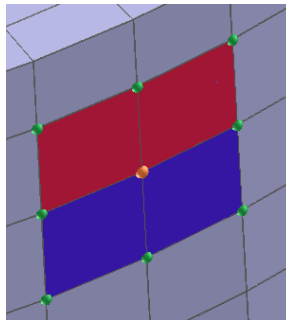
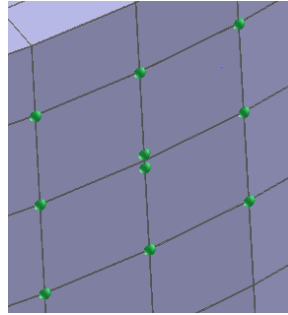

Figure 5.54 Before splitting a selected node between Group 1 and Group 2.
Figure 5.55 After splitting a selected node between Group 1 and Group 2.
- To split only few selected nodes (not all shared nodes) between elements belonging to Group 1 and Group 2, first select nodes by left-clicking on them while holding down the *shift-key*, then click on **Split Pn Nodes between Groups (Split Sigma Nodes between Groups)**. Only selected nodes are split between Group 1 and Group 2. See Figure 5.54 and Figure 5.55.